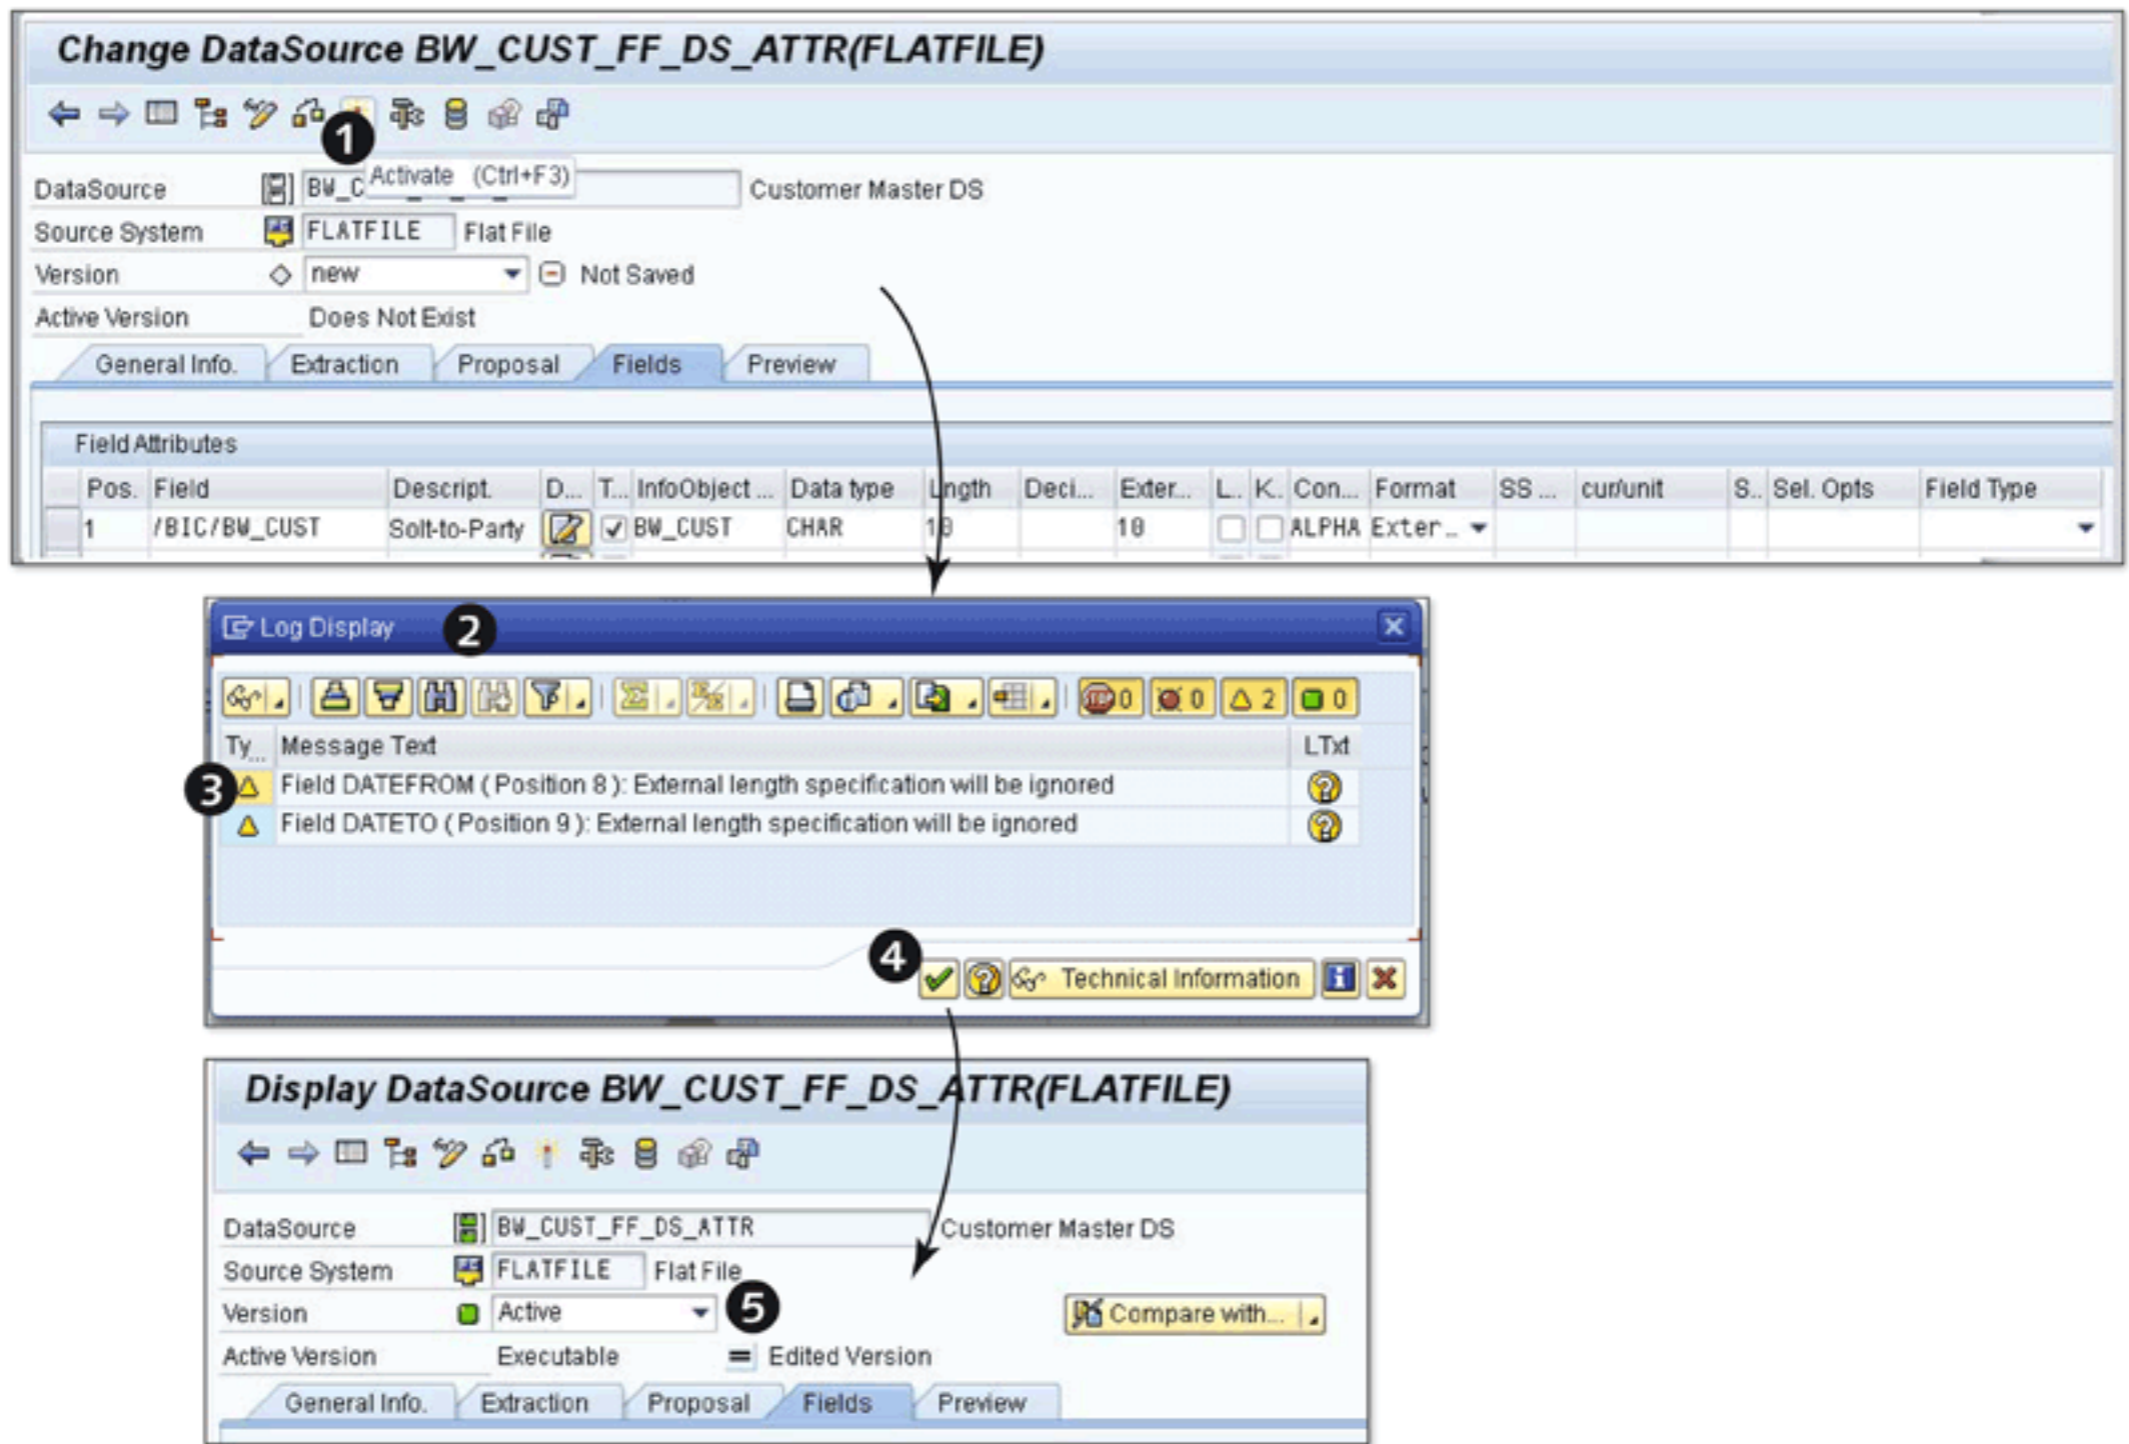

Figure 7.16 Activating DataSource
You can now activate the DataSource using the ACTIVATE icon shown in ❶ of Figure 7.16. Activating the DataSource also creates the PSA associated with it (a PSA is technically a transparent table, and data is saved unchanged in it). There is no transformation between the source system and the PSA. In SAP NetWeaver BW, storing data in PSAs is mandatory in almost all of the ETL scenarios.
At the time of activation, the system may show you some log messages (❷ of Figure 7.16). These messages appear because of discrepancies in the specified field length; in positions ❸ and ❹ of Figure 7.15, shown earlier, the internal length (LENGTH column) is given as 8, and the external length (EXTERN column) is given as 10. The warning messages tell you that the system will use the internal length, ignoring the external length. As shown in ❸ of Figure 7.16, the symbol in front of both messages is yellow (which indicates a warning message); you can click on the CONTINUE icon (❹).
Once successfully activated, the version of the DataSource is changed from NEW to ACTIVE, as shown in ❺ of Figure 7.16.